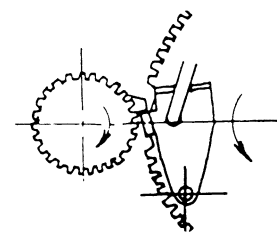

Fig. 4
4. When playing ends and the pick-up cartridge enters the lead-out groove which is spaced out, the engagement advances more than it is returned by the projection. Because of this, the engagement is pressed by the projection as shown in Fig. 4, causing the main gear to turn and engage with the turntable spindle gear. Thus the change cycle is started.